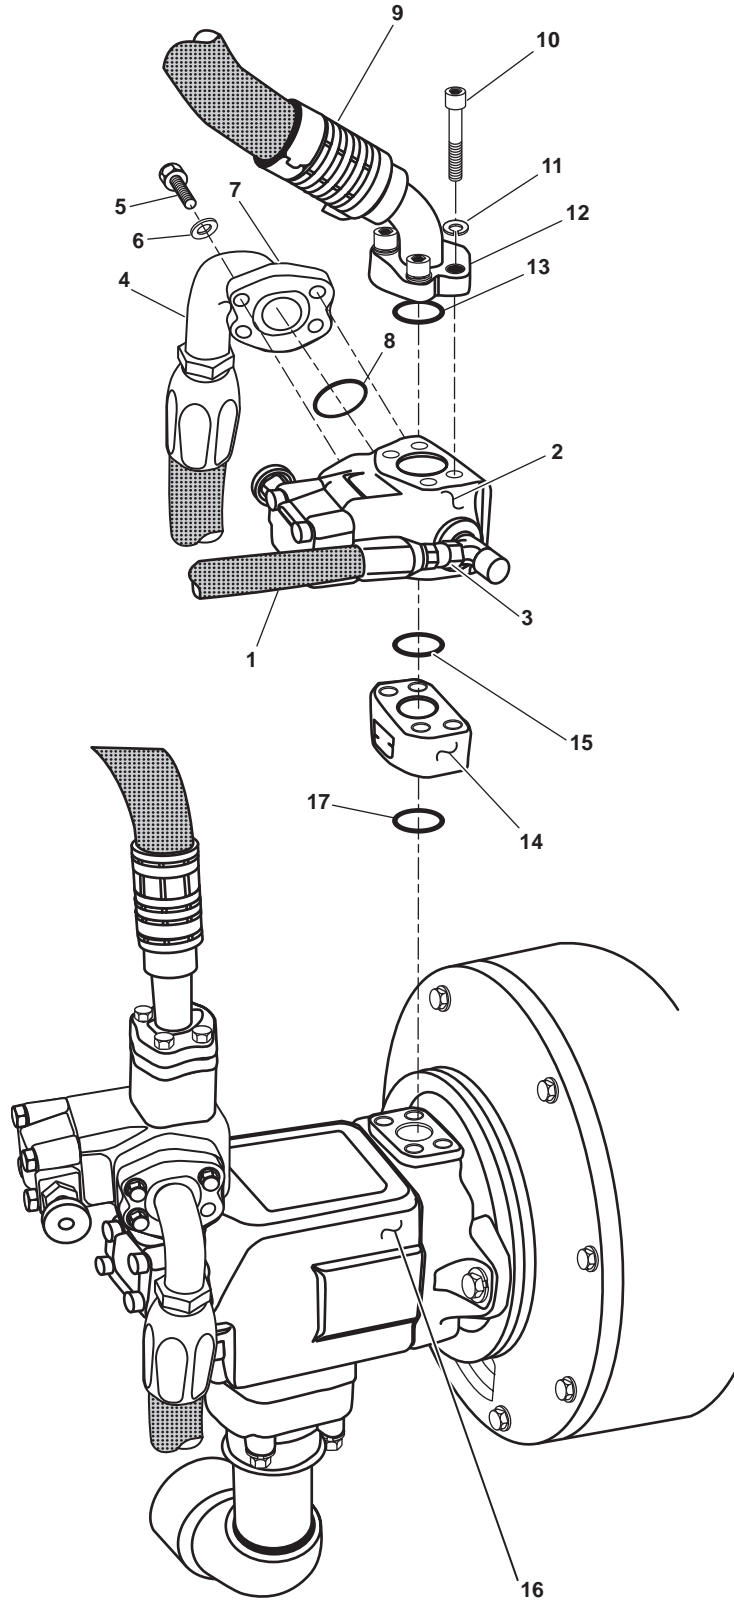

Figure 2. Hydraulic Pump and 3-Port Compensator Valve
1. Remove the hydraulic fluid gauge pressure hose (figure 2, item 1) from the 3-port compensator valve (figure 2, item 2) by turning the hydraulic fluid gauge pressure hose fitting (figure 2, item 3) in the counter-clockwise direction.
2. Cover the end of the hydraulic fluid gauge pressure hose (figure 2, item 1) with a clean rag to prevent dirt and foreign material from entering the hydraulic system. Place an identification tag or label on the hydraulic fluid gauge pressure hose.
3. Remove the main pressure hydraulic fluid dump hose (figure 2, item 4) from the 3-port compensator valve (figure 2, item 2) by removing the four bolts (figure 2, item 5) and the four washers (figure 2, item 6).
4. Separate the split flange halves (figure 2, item 7) and remove the main pressure hydraulic fluid dump hose (figure 2, item 4).
5. Cover the end of the main pressure hydraulic fluid dump hose (figure 2, item 4) with a clean rag to prevent dirt and foreign material from entering the hydraulic system. Place an identification tag or label on the main pressure hydraulic oil dump hose.
6. Remove the O-ring (figure 2, item 8) from the 3-port compensator valve (figure 2, item 2). Discard the O-ring.
7. Remove the main pressure hydraulic hose (figure 2, item 9) from the 3-port compensator valve (figure 2, item 2) by removing the four bolts (figure 2, item 10) and the four lockwashers (figure 2, item 11). Discard the lockwashers.
8. Separate the split flange halves (figure 2, item 12) and remove the main pressure hydraulic hose (figure 2, item 9).
9. Cover the end of the main pressure hydraulic hose (figure 2, item 9) with a clean rag to prevent dirt and foreign material from entering the hydraulic system. Place an identification tag or label on the main pressure hydraulic hose.
10. Remove the O-ring (figure 2, item 13) from the 3-port compensator valve (figure 2, item 2). Discard the O-ring.
11. Remove the 3-port compensator valve (figure 2, item 2) from the check valve (figure 2, item 14). Cover the 3-port compensator valve with a clean rag to prevent foreign material from entering the valve.
12. Remove the O-ring (figure 2, item 15) from the check valve (figure 2, item 14). Discard the O-ring.
13. Remove the check valve (figure 2, item 14) from the hydraulic pump (figure 2, item 16).
14. Remove the O-ring (figure 2, item 17) from the hydraulic pump (figure 2, item 16). Discard the O-ring.
1. Install a new O-ring (figure 2, item 17) on the hydraulic pump (figure 2, item 16). Lubricate the O-ring with hydraulic fluid.
2. Install the check valve (figure 2, item 14) on the hydraulic pump (figure 2, item 16).
3. Install a new O-ring (figure 2, item 15) on the check valve (figure 2, item 14). Lubricate the O-ring with hydraulic fluid.
4. Install the 3-port compensator valve (figure 2, item 2) on the check valve (figure 2, item 14).
5. Install a new O-ring (figure 2, item 13) on the 3-port compensator valve (figure 2, item 2). Lubricate the O-ring with hydraulic fluid.
6. Install the split flange halves (figure 2, item 12) using four new lockwashers (figure 2, item 11) and the four bolts (figure 2, item 10). Do not tighten the four bolts.
7. Connect the main pressure hydraulic hose (figure 2, item 9) to the 3-port compensator valve (figure 2, item 2) by inserting the main pressure hydraulic hose between the split flange halves (figure 2, item 12). Tighten the four bolts (figure 2, item 10).
8. Install a new O-ring (figure 2, item 8) on the 3-port compensator valve (figure 2, item 2). Lubricate the O-ring with hydraulic fluid.
9. Install the split flange halves (figure 2, item 7) using the four washers (figure 2, item 6) and the four bolts (figure 2, item 5). Do not tighten the four bolts.
10. Connect the main pressure hydraulic fluid dump hose (figure 2, item 4) to the 3-port compensator valve (figure 2, item 2) by inserting the main pressure hydraulic fluid dump hose between the split flange halves (figure 2, item 7). Tighten the four bolts (figure 2, item 5).
11. Connect the hydraulic fluid gauge pressure hose (figure 2, item 1) to the 3-port compensator valve (figure 2, item 2) by turning the hydraulic fluid gauge pressure hose fitting (figure 2, item 3) in the clockwise direction.